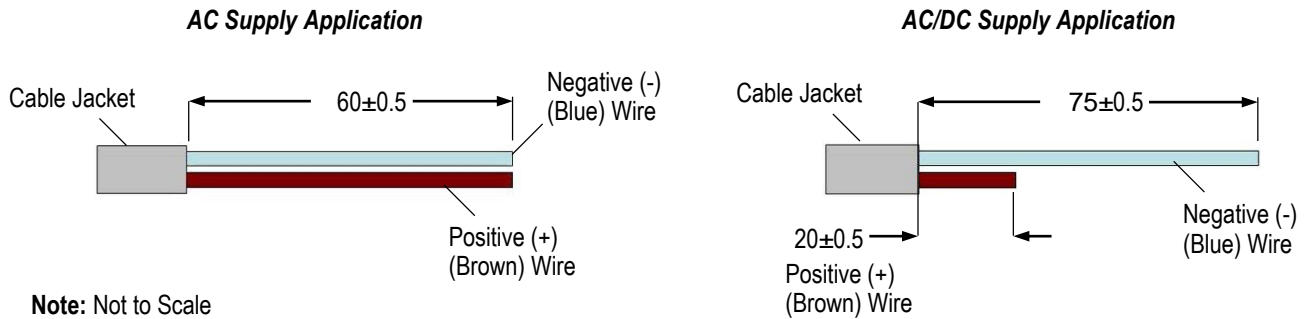

Figure 2
- Changed strip length for high-voltage application in Figure 2
The cable must be prepared to the dimensions given in Figure 2.